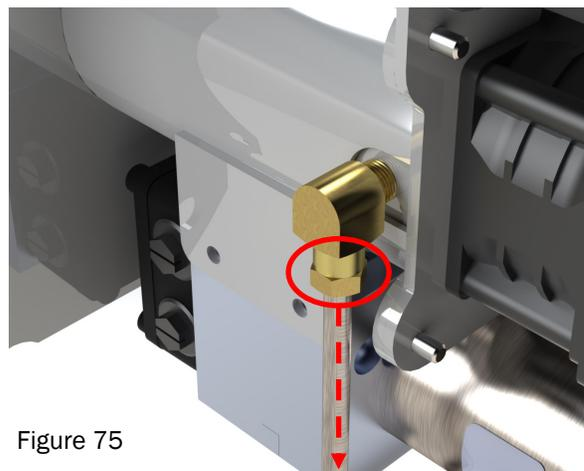

Figure 75
7. Using a 7/16" wrench, loosen and remove the **lower** fuel fitting from the side of the burner. Reference figure 75 to the right.